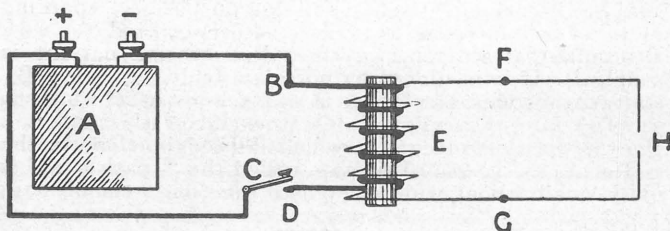
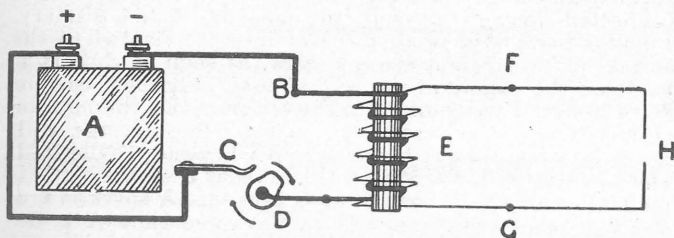

Fig. 3. — Accumulator connected to induction coil.
Fig. 4.—Accumulator and coil with engine-driven contact maker.
Fig. 3 will help to make the matter clear. An accumulator (A) has one terminal connected to the terminal (B) of a solenoid. The other terminal of the accumulator is connected to a metal spring (C), the other end of which is just over the other solenoid terminal (D).
To use an induction coil for ignition purposes, the contact between C and D has to be made by the engine and broken again just when the spark is required. This is done by what is called a *contact maker*, an idea of which may be had from Fig. 4. The arrangement is the same as Fig. 3,
the cam shown in Fig. 4, a "wipe" contact is often employed. This (marked D) consists of a fibre disc, which is an insulator, mounted on the end of the engine camshaft. In it there is a small metal segment, shown black, which runs through to the centre of the disc, and is therefore connected to "earth," or the engine crankcase. Whenever the metal segment on this disc passes under the end of the spring (C) the M terminal of the coil is joined to earth. Inside one end of the secondary is connected to M, so this also is earthed. The other coil terminal (H) is the other end of the secondary winding, and is connected to the sparking plug (E), as already explained. The "-" accumulator terminal is connected to the engine, that is to earth, through an ordinary switch (S). If these connections are followed, it will be seen that every time the circuit is completed at the commutator, the trembler of the coil is started and sparks are produced inside the cylinder by means of the plug (E). All we have to do, therefore, is to set D on the camshaft in such a position that it makes contact with C at the moment an explosion is required.